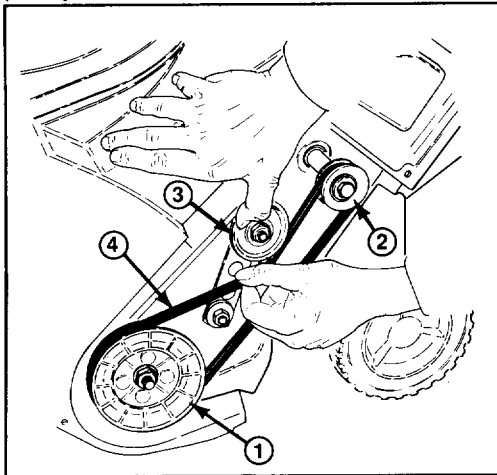

Figure 10
3. REMOVING BELT (Fig. 10)—Pull idler pulley up slightly while pulling out on belt. Allow pulley to gradually release when it can move past the belt. **DO NOT LET IDLER PULLEY SNAP.** Rotate rotor with left hand and work belt off rotor pulley. Belt slides easily off drive pulley.